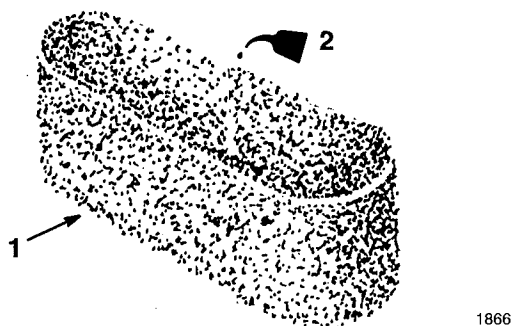

Figure 30
- Put one or two ounces of oil on the element (Fig. 30). Squeeze the element to distribute the oil.